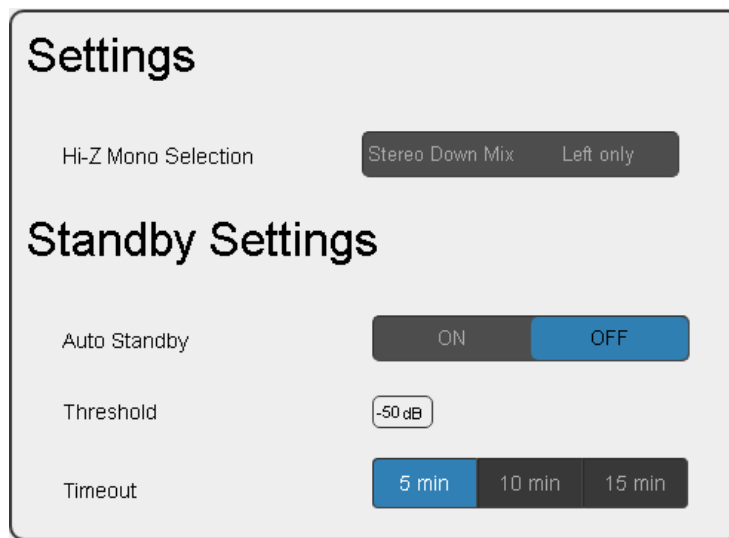

Figure 17: Audio Settings Page
1. In the Navigation pane, click **Audio Settings**. The Audio Settings page appears (Figure 17).
The threshold can be set by entering a valid number (-100 dB to 0 dB) into the Threshold textbox (see Figure 17), or using protocol 3000 command AUD-IN-CONF on page 38.